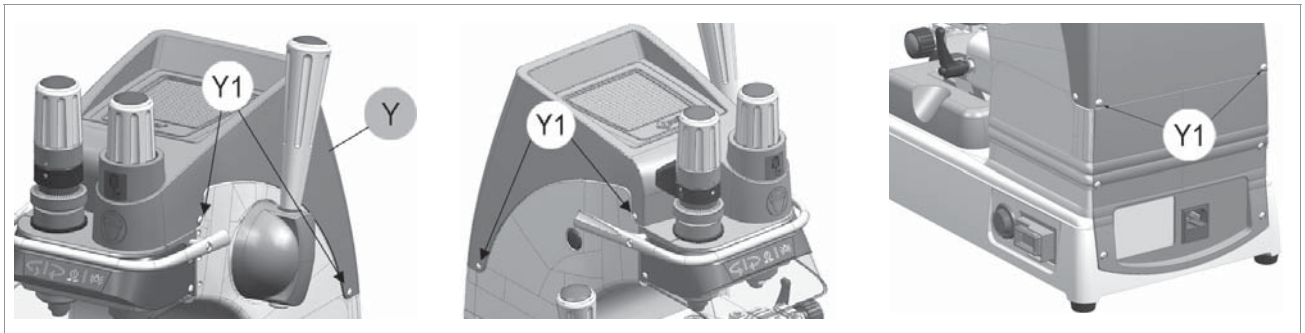

Fig. 52
- 2) Remove the 6 screws (Y1) to detach the top safety guard (Y) (Fig. 52).